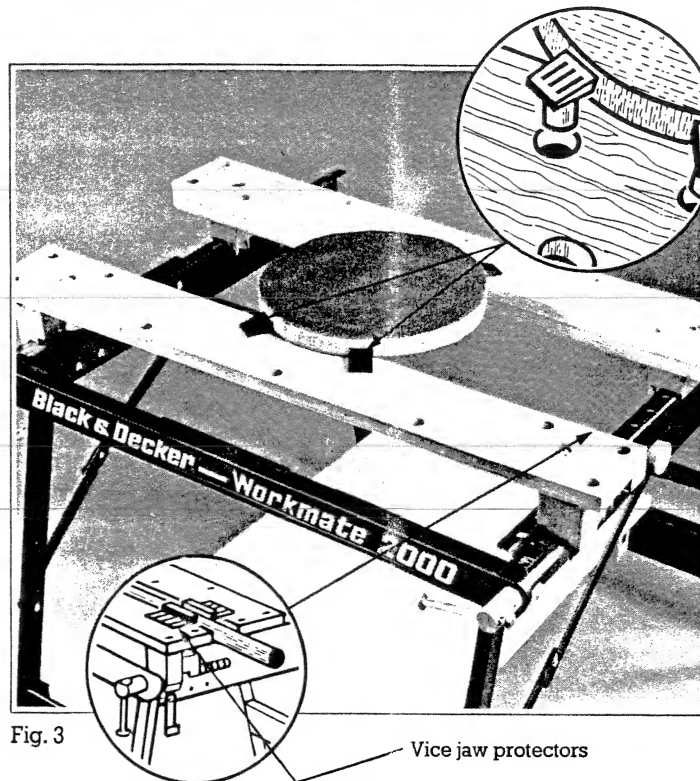

Fig. 3
(A) Four vice pegs – ideal for clamping irregular shaped work pieces safely fig. 3.